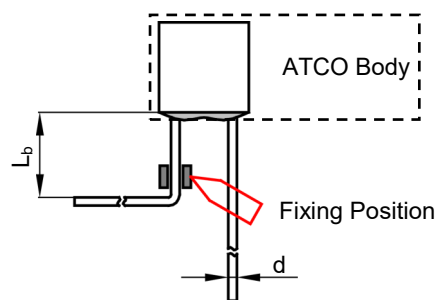

FIGURE SY-2
2. When bending leads, please use pincher or similar tools to fix the product as shown in Fig.SY-2, to avoid damaging the product.